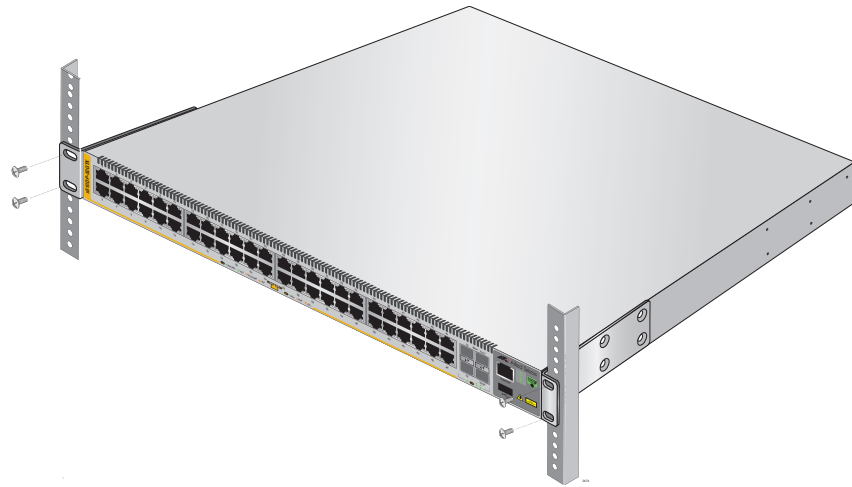
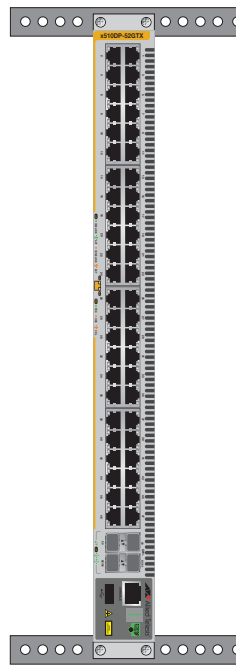

Figure 28. Mounting the Switch Horizontally in an Equipment Rack
Figure 29. Mounting the Switch Vertically in an Equipment Rack
5. While another person holds the switch in the equipment rack, secure it using standard equipment rack screws (not provided), as shown in Figure 28 for horizontal mounting and Figure 29 for vertical mounting.